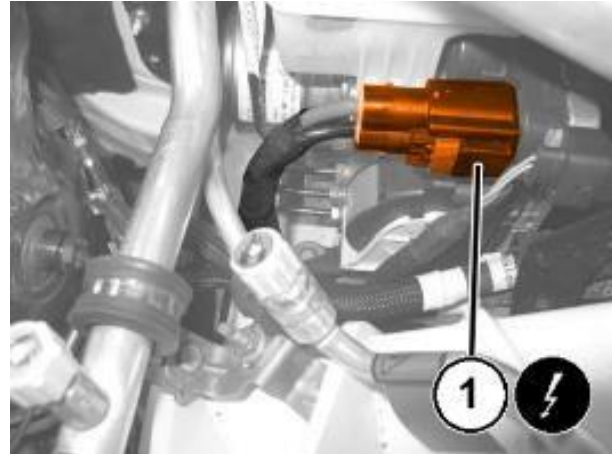

Figure 16 – ABS Electrical Connector
30. Disconnect the electrical connection (1) for the ABS module (Figure 16).